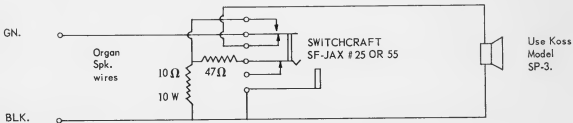

Figure 1-12. Earphone Adapter Circuit
**1-25. EARPHONES.** — In order to use earphones, the output jack and network shown in Figure 1-12 are required. When earphones are in use, organ speakers are silenced.